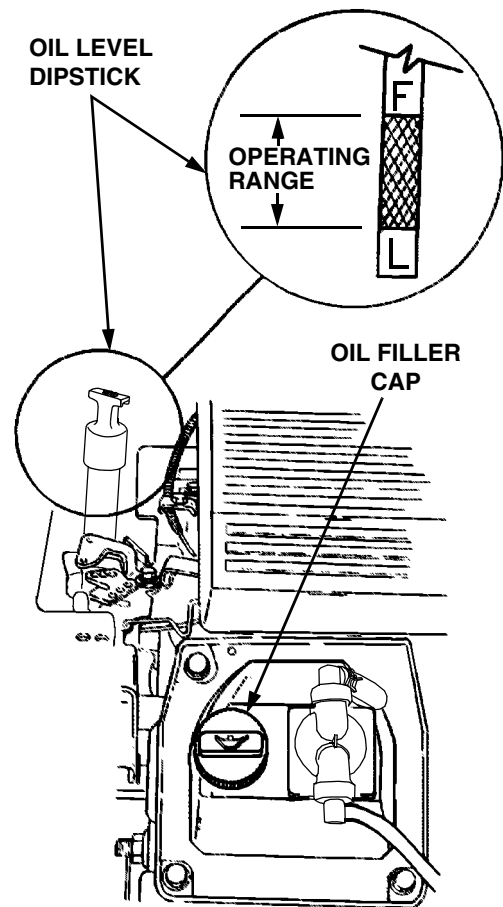

Figure 20
Regularly checking and maintaining the engine oil level in the crankcase cannot be overemphasized. Close monitoring of the oil level during the first 10 hours of operation is especially important. Referring to Figure 20, check the oil level **BEFORE EACH USE** as follows:
3. Remove the oil filler cap from the left valve cover and SLOWLY pour in oil. Fill the crankcase until the oil level reaches the “FULL” mark on the dipstick (Refer to Figure 20).
3. Remove the oil filler cap from the left valve cover and SLOWLY pour in oil. The oil capacity is approximately 4 pints. Fill the crankcase until the oil level reaches the “FULL” mark on the dipstick (Refer to Figure 20).